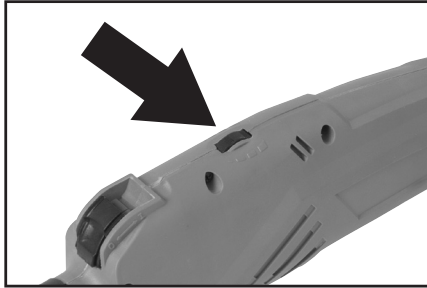

Fig. 15
- The speed control dial (**Fig. 15**) is located forward of the 'ON/OFF' switch. Rotate this control dial to alter the speed of the motor.